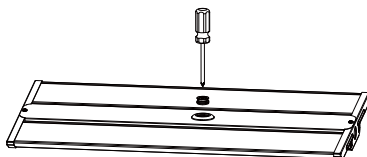

Figure 12
Step1.Use a screwdriver to remove the 1/2 plug from the sensor; [Figure 12]